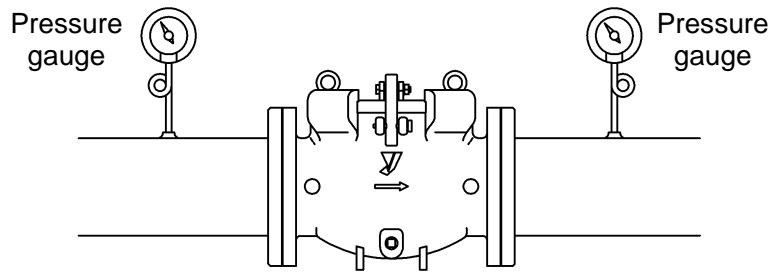

Fig. 2
1. Clogging condition inside the product can be known from the differential pressure measured when pressure gauges are installed before and after the product (see Fig. 2).